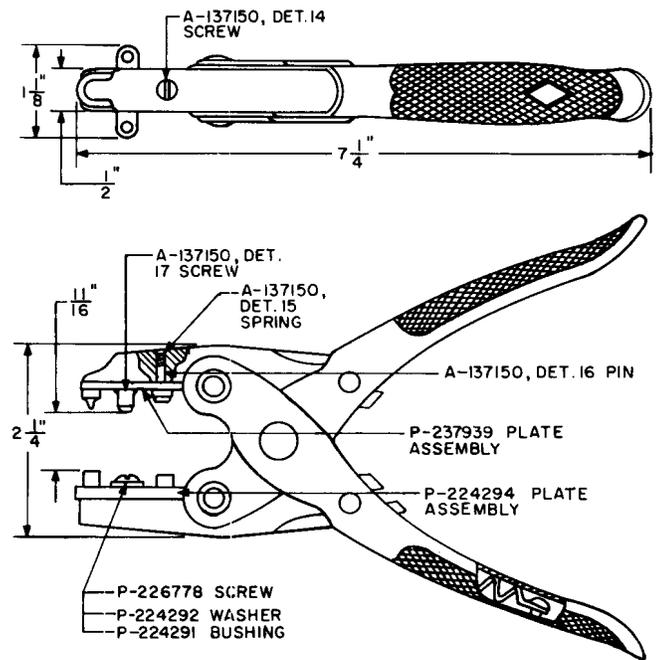

Fig. 2—345 Jack Sleeve Remover and Replacer Tool
2.03 345: The 345 jack sleeve remover and replacer tool (Fig. 2) is used on 92- and 292-type jacks.